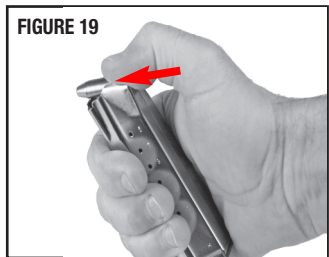

FIGURE 19
- Look into the chamber and down through the magazine well. Verify that no ammunition remains in the pistol (FIGURE 19).
- Unload the magazine by holding it with the bullet end of the cartridge pointing away from you and pressing each cartridge forward and out of the magazine (FIGURE 19).